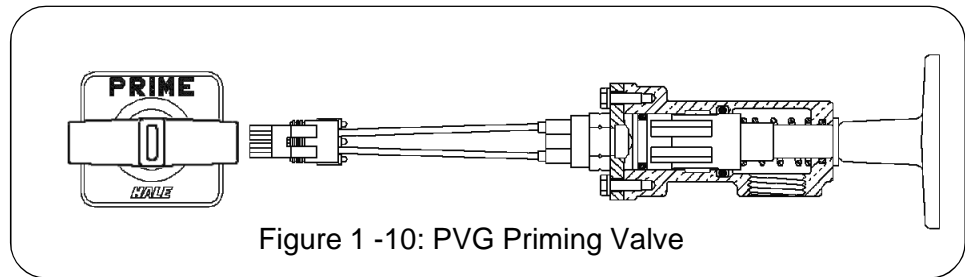

Figure 1 -10: PVG Priming Valve
2. **The Hale PVG Priming Valve** (Figure 1 - 10) is mounted on the pump operator's panel. The PVG is a combination valve and switch. When the handle on the PVG is pulled out, the valve opens and the switch energizes the primer motor. Pushing the handle de-energizes the motor and closes the valve.